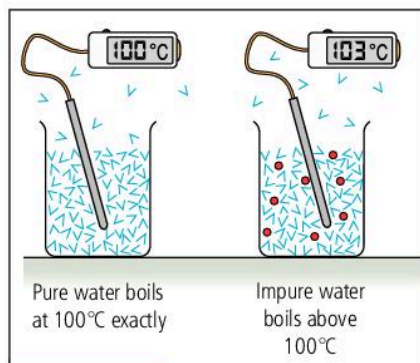

Figure 2.2.2
- The boiling point of a liquid is increased by adding other substances. Making water impure by dissolving a lot of sodium chloride in it raises the boiling point from 100°C to about 103°C (Figure 2.2.2). The more salt that is dissolved, the greater the rise in the boiling point.